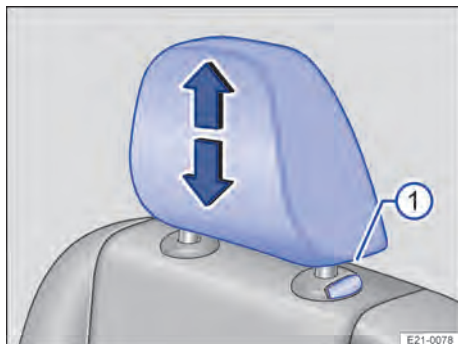
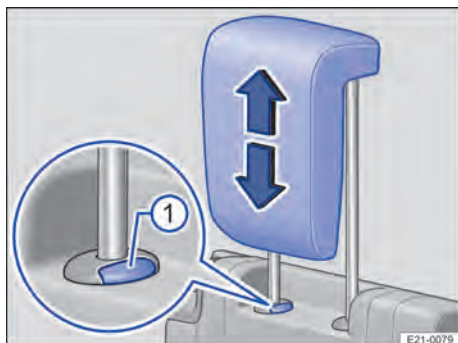

Fig. 78 Second row of seats: Removing the head restraint
Fig. 79 Third row of seats: Removing the head restraint
- Pull the head restraint out fully while pressing the button → Fig. 78 ❶ or → Fig. 79 ❶.